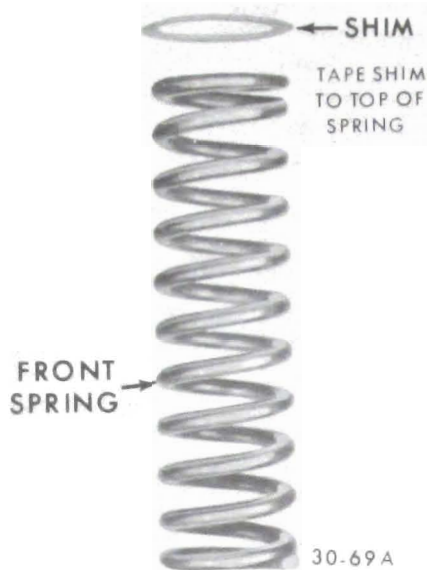

Figure 30-44 - Installing Shim on Spring
2. Place shim at top of spring as shown in Figure 30-44. Taping shim to spring will aid installation.